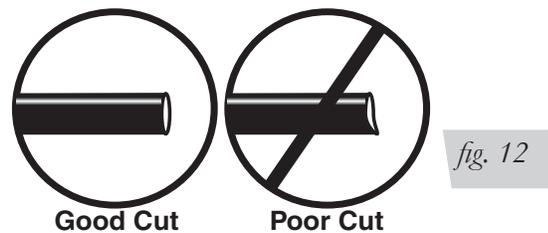

fig. 12
- a. Check the air line connection by deflating the spring and removing the line by pulling the collar against the fitting and pulling firmly on the air line. Trim 1” off the end of the air line. Be sure the cut is clean and square (fig. 12). Reinsert the air line into the push-to-connect fitting.